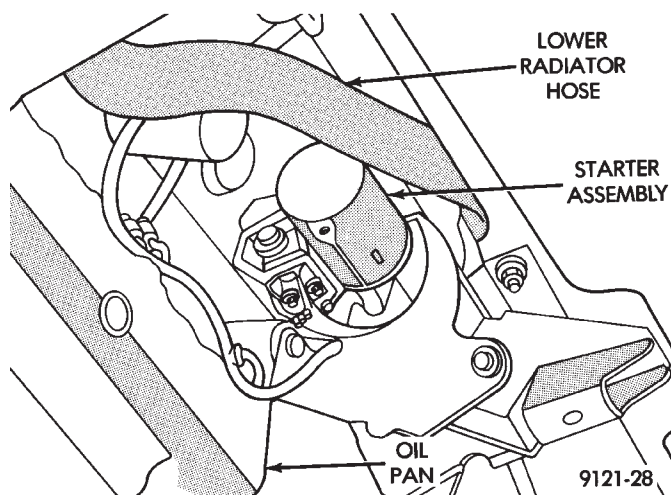

Fig. 8 Remove Starter Assembly
(14) Remove starter bolts and set starter aside. Do not allow the starter to hang from battery cable (Fig. 8).